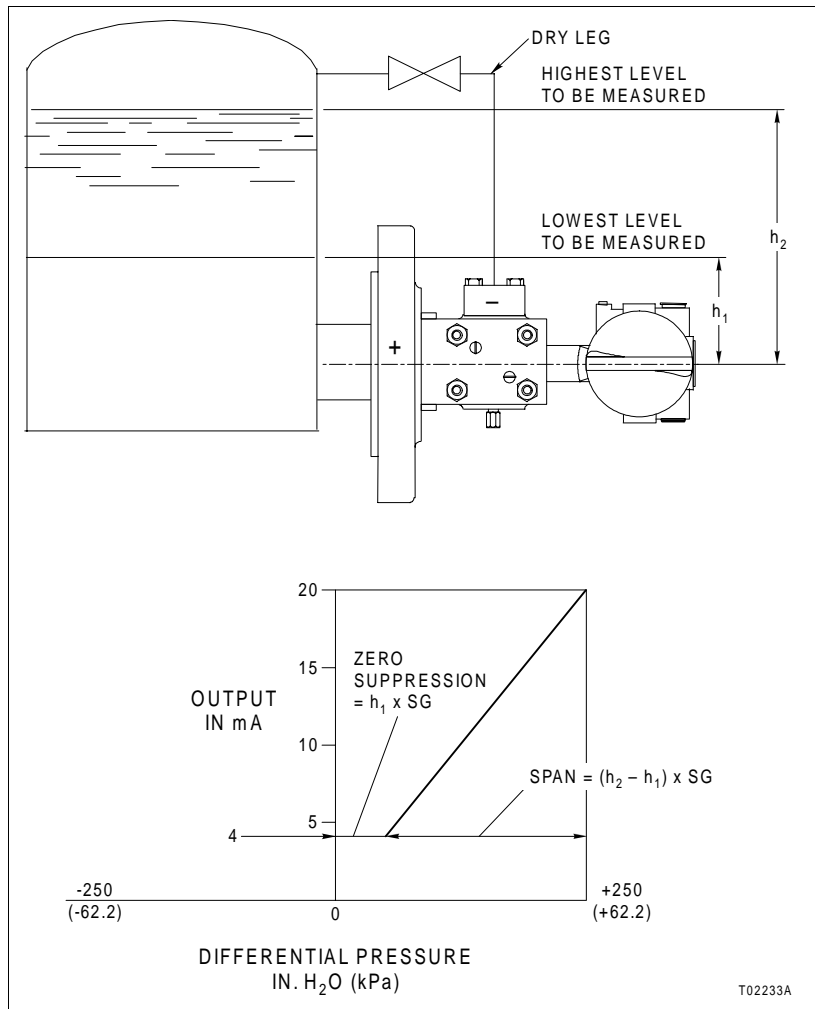

Figure 3-5. Closed Tank (Noncondensing Atmosphere) Level Measurement
If the atmosphere above the liquid is noncondensing, the pressure line from the top connection to the low pressure connection of the cell is a dry leg. The transmitter responds only to the pressure of the fluid measured at the lower tap of the tank that connects to the high pressure (+) connection of the cell (Fig. 3-5). The calculations are the same as those for an open tank level measurement.
3. The output of the transmitter is proportional to the level of the liquid above the cell multiplied by the specific gravity of the liquid. If the zero point of the desired level range is above the cell, the lower range value must be changed to reflect this. Refer to Section 4 and Section 5 for more information. Refer to Figure 3-5 for a graphical representation of this application.